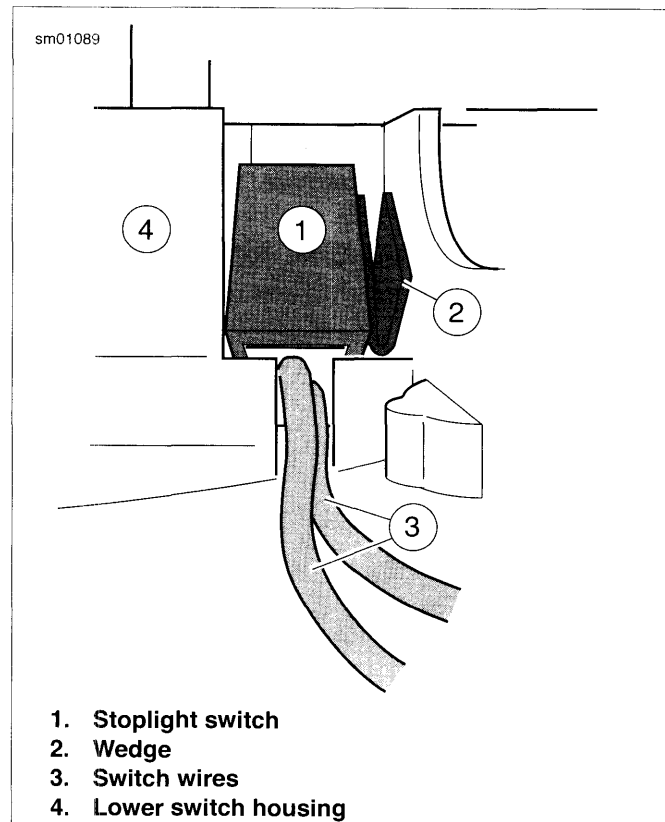

Figure 6-132. Install Stoplight Switch
- See Figure 6-132. Push down on switch (1) so that it bottoms against housing and wires (3) run in groove at base of cavity. With the concave side facing outward, insert wedge (2) between switch and outboard side of switch housing.